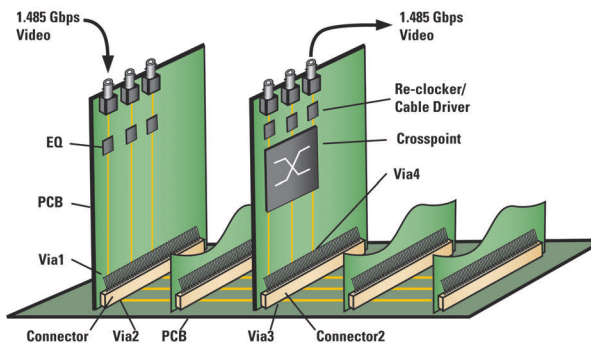

Figure 1. HD Video Router Diagram
In this system (Figure 1), an Adaptive Equalizer (EQ) receives the HD signal directly from the BNC connector.